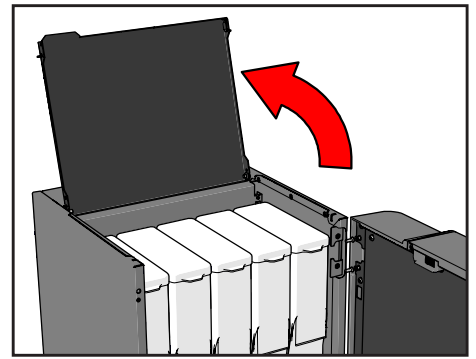

Figure 35.
3. Open the top cover (see Figure 35).